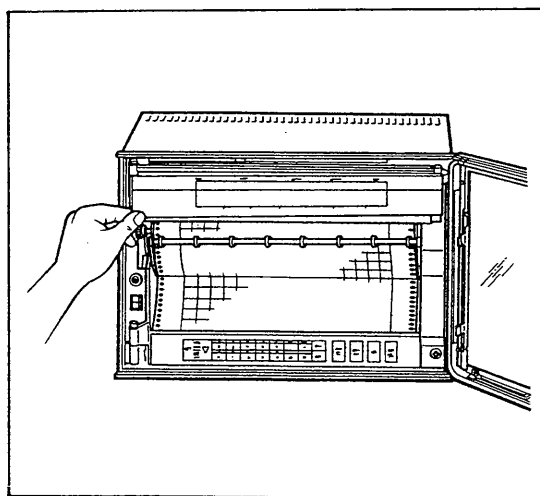

Figure 5-15. Opening Display Panel.
- (2) Hold the lower left corner of the display panel and pull it open (see Figure 5-15 and Caution below).